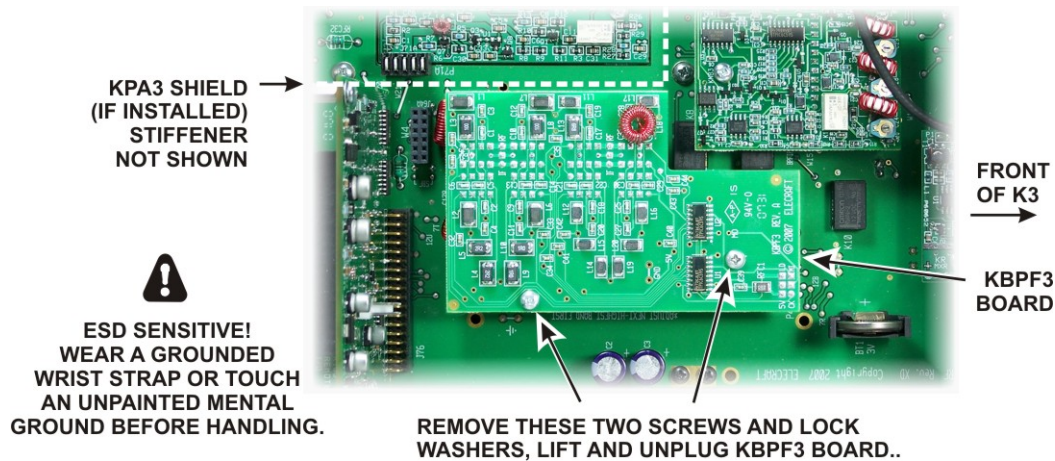

Figure 2. Removing KBPF3 Board.
- If you have the KBPF3 board installed, removed it as shown in Figure 2.